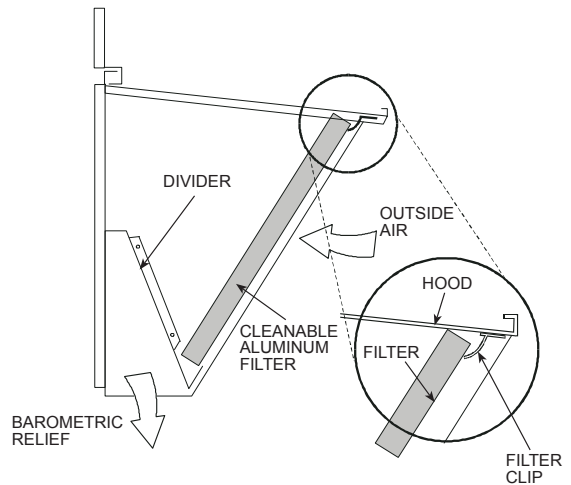

Fig. 16 — Economizer Filter Installation
5. Open the filter clips which are located underneath the hood top. Insert the aluminum filter into the bottom filter rack (hood divider). Push the filter into position past the open filter clips. Close the filter clips to lock the filter into place. See Fig. 16.